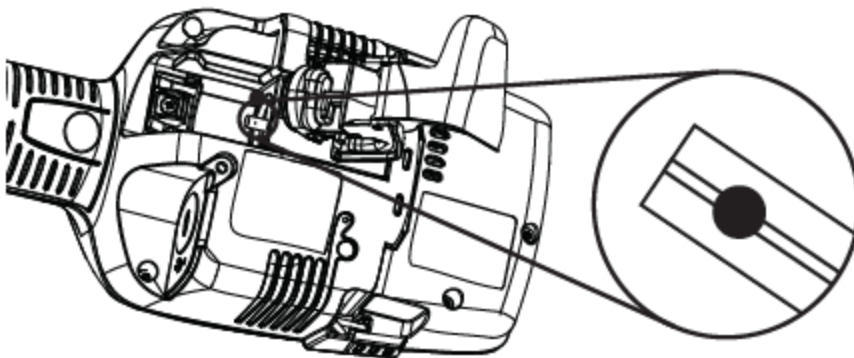

Figure 8-5: Sensing element in place
When handling the sensing element, take care only to touch the end of the Element that is marked with a dot (Figure 8-5).
Step 4: Insert the unmarked end into the sensing element compartment in the Fido X4 (see Figure 8-5).